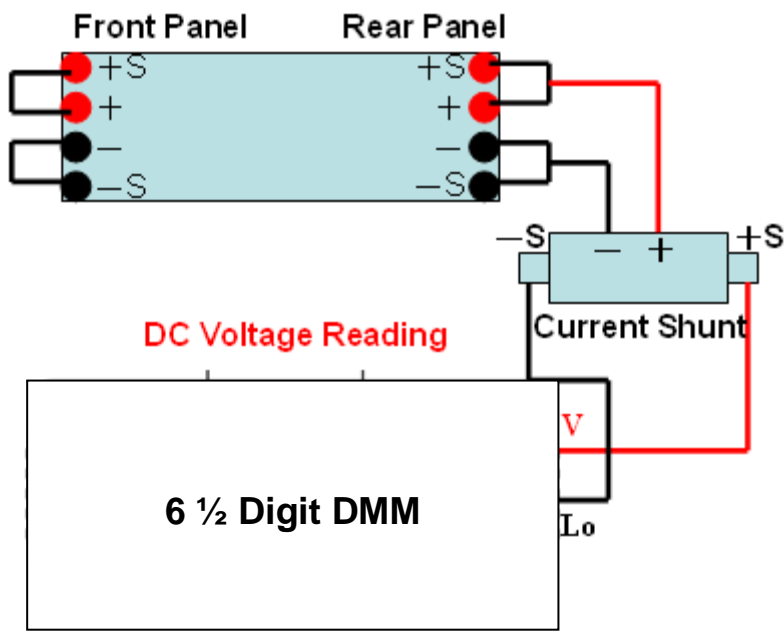

Figure 32- Current Calibration with Shunt
- If the maximum output current of the power supply is within the current limit of the DMM, then use the wire connections shown in Figure 32 to calibrate current.